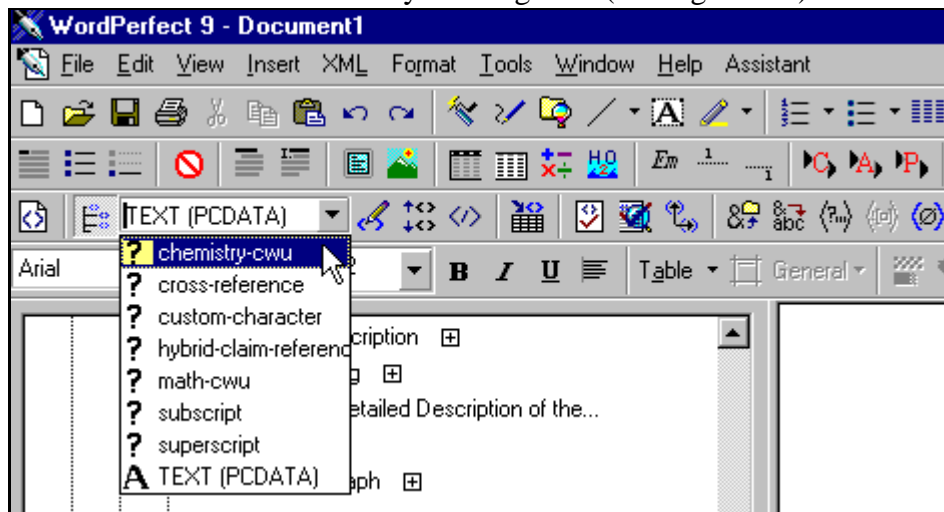

Figure 5-3 Element Drop Down List
2. Choose an element from the list by clicking on it (see Figure 5-3).
In Figure 5-3, all of the available elements are preceded by a question mark. This indicates that the element is optional.